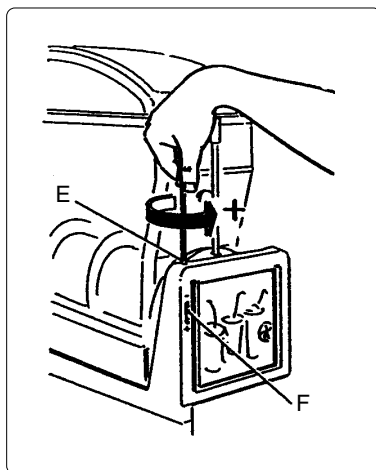

Fig. 9
- b) Adjusting the consistency: to change the consistency of the product, use the screw (E) located on the back of the machine (fig. 9); if turned clockwise, the product will thin out, and if turned counterclockwise, the product will become thicker. Indicator (F) indicates the degree of greater or lesser consistency of the product.